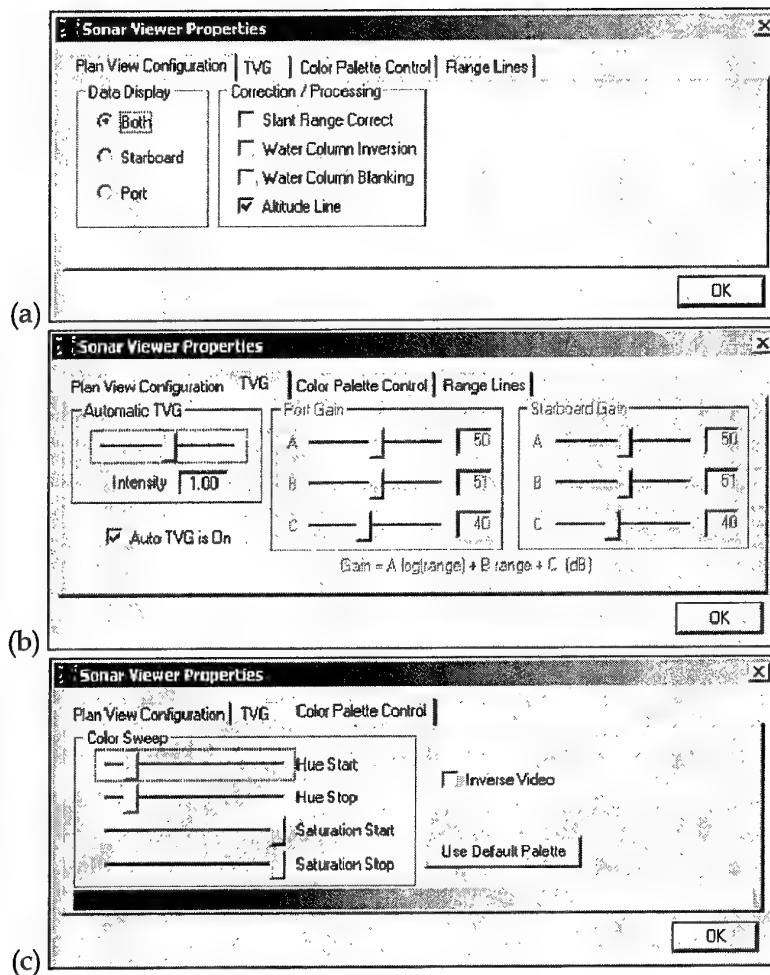

Figure 84 The three tabs of the Sonar Viewer Properties window. (a) Plan View Configuration, (b) TVG and (c) Color Palette.
-  The Plan View Configuration icon controls whether or not the waterfall display (1) is corrected for Slant Range, (2) displays the altitude line, (3) displays the port or starboard or both, sidescan data, (4) blanks out the water column or (5) is inverts the colour of the water column. Figure 84(a) shows the Plan View Configuration tab in the Sonar Viewer Properties window.
-  The Time Variable Gain (TVG) icon permits the operator to alter how the gain of the intensity is applied. The operator has the options of leaving the gain on Auto or adjusting the three components of the TVG, namely spherical spreading, absorption and scattering, for the port and starboard channels, using the slider rulers. Any adjustments made to the TVG will appear immediately in the waterfall display. Figure 84(b) shows the TVG tab in the Sonar Viewer Properties window.